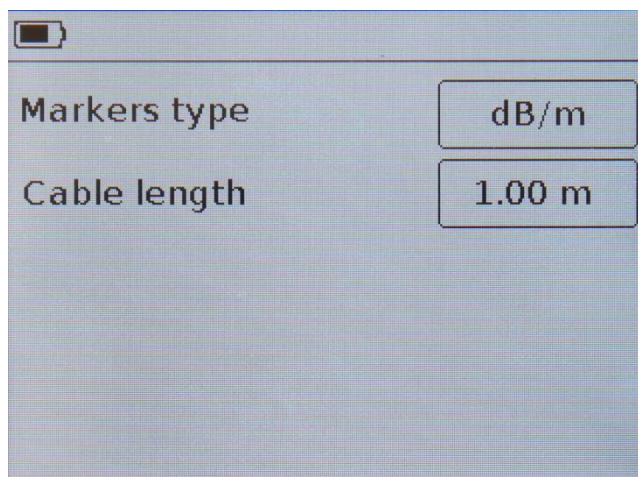

Figure 10.16 – Selecting units of measurement and setting cable length
10.8.4. If the cable length is known, for example, measured using the DTF plot (par. 10.7), then in order to display the loss in decibels per linear meter (dB / m), change the units of measurement by clicking on them. A menu appears as in Figure 10.16.